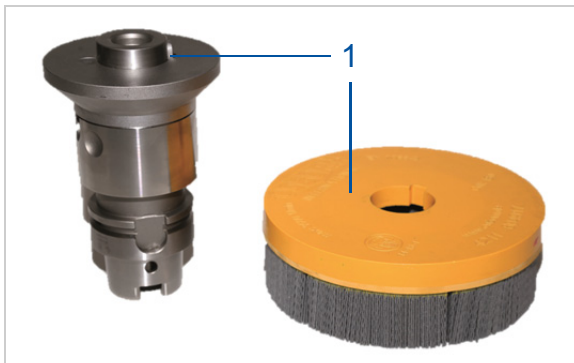

Figure 2: Clean brush and milling cutter arbor
1. Clean the mounting area of the brush and milling cutter arbor (see “Figure 2: Clean brush and milling cutter arbor”, item 1).